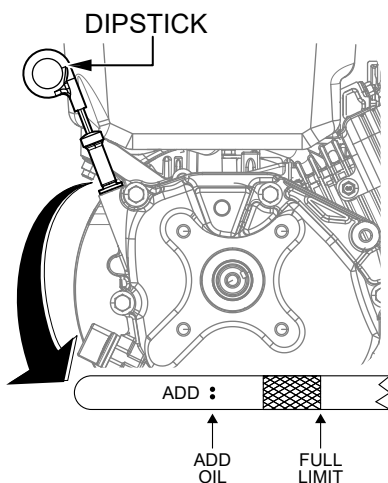

Figure 5. Engine Oil Dipstick
2. Remove the **dipstick** (Figure 5) from its holder and wipe it clean.
3. Reinsert the dipstick, then remove it again and check the oil level shown on the dipstick (Figure 5). The correct oil level is at the top of the full indicator on the dipstick.